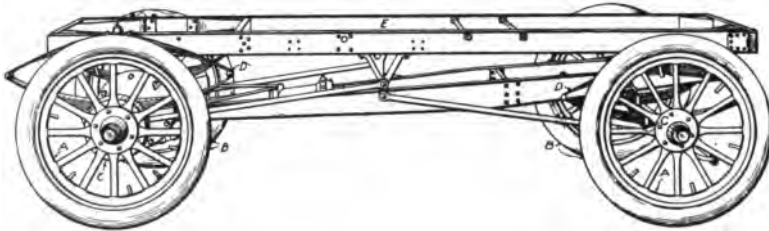
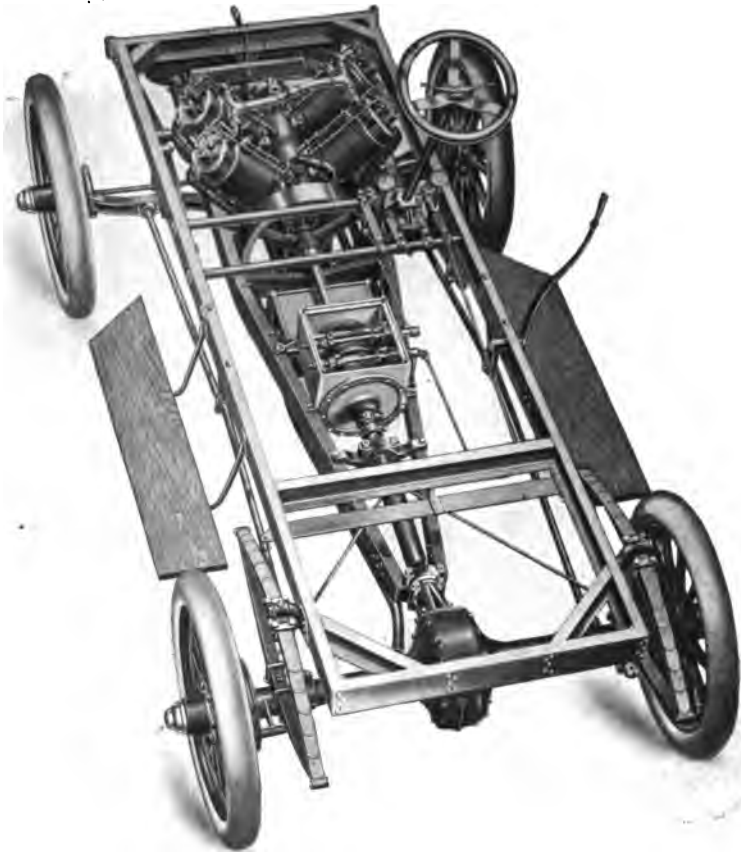

Fig. 1. Running Gear of a Motor-Car.
Fig. 2. Typical Chassis of a Motor-Car, Showing Running Gear and Power Plant.
The running gear (Fig. 1) consists of: *Wheels (A)*, for supporting and propelling the whole machine; *Tires (B)*, for cushioning the car from rough shocks and jars, and for providing a sufficient adhesion
location, such frame being capable of sustaining the loads to be carried. In addition to the above features shown in Fig. 1, the running gear (see Fig. 2) includes *steering devices* (controlled by hand-wheel, shown at upper right), for altering the direction of move-